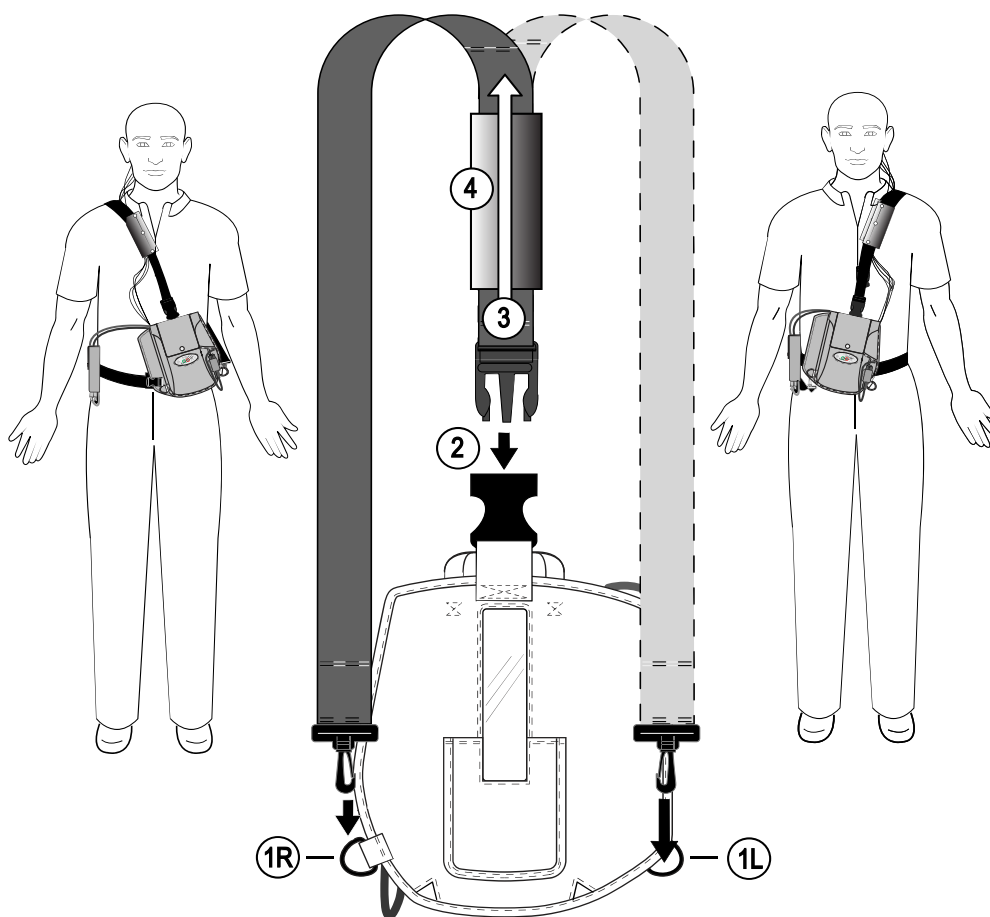

Figure 2.
Two belts are provided with the garment, a short one (A) and a long one (B) as shown in Figure 2. Use each one individually as required or combine the two (A and B) to create a longer belt.
2. Slide the belt through the belt loop (5) on the back of the garment.